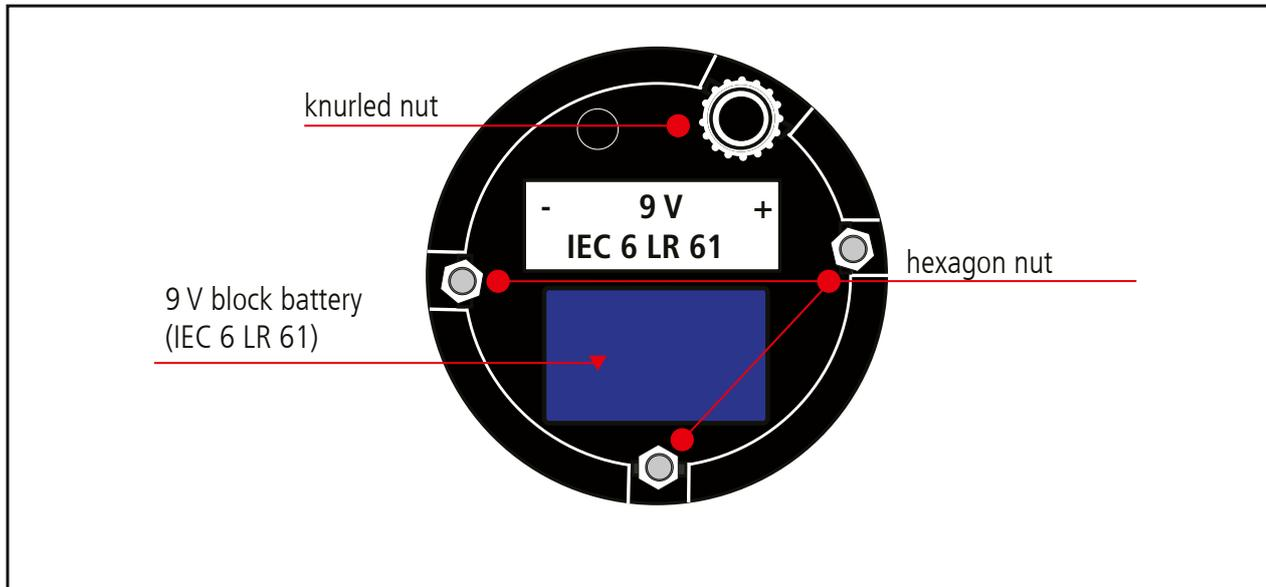

Fig. 9.5 Lower part of the electronic element
- 9.5 Before assembling the indicator, ensure tight fit of the hexagon nuts screwed to the electronic element as well as the knurled nut. If nuts (hexagon or knurled nut) are loose or missing, withdraw the voltage detector (indicator) from service and send it to **DEHN** for repair (see Fig. 9.5)!